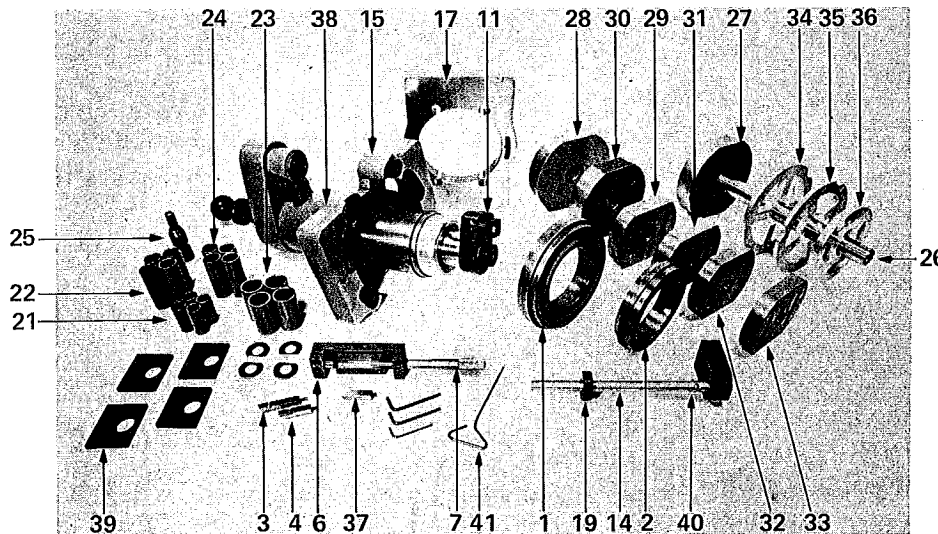

Fig. 1 "UPB-300" Porta-Bore
1. Select proper alignment ring (1 or 2), see Fig. 1. Remove "O"-ring (5) and install alignment ring into main shaft with taper towards cutter holder. Install O-ring to keep alignment ring from sliding off the main housing, see Fig. 2.